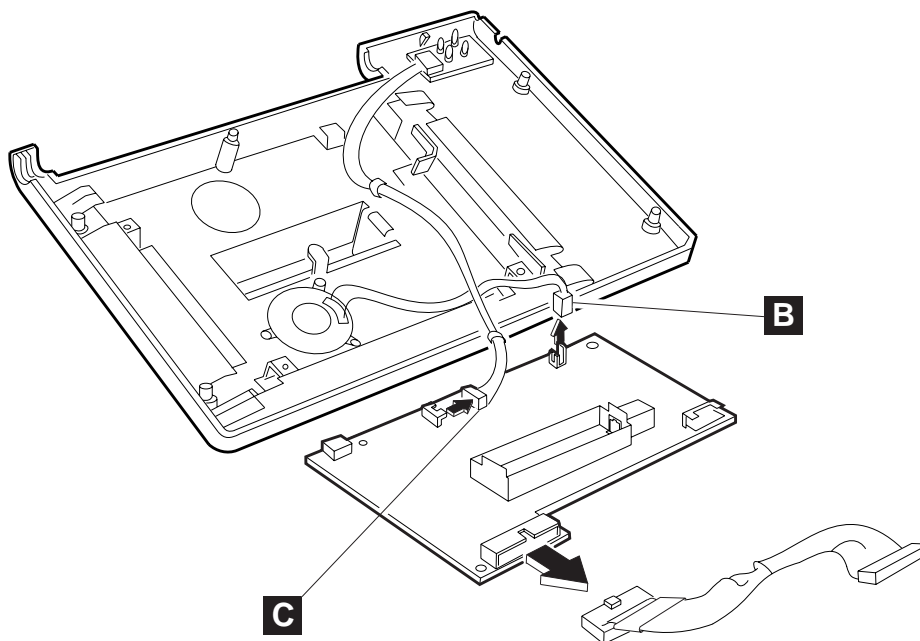

Figure 64. Disconnecting the connector to the LED assembly
- Lift up the logic board as shown in Figure 64.
- Disconnect the connector to the LED assembly at the end to the logic board (**B** and **C** in Figure 64).